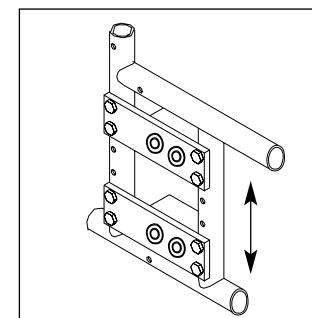

Fig. 12
1. Seat Height - Quickie 2 and Zippie 2 Only (Fig. 12)